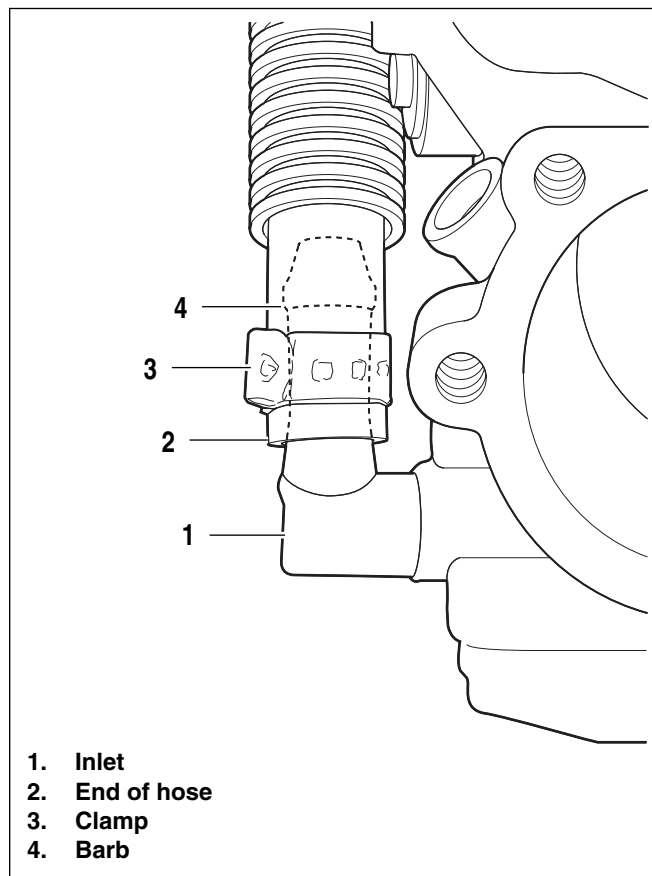

Figure 1. Fuel Hose And Clamp
2. See Figure 1. Inspect fuel hose and clamp. Be sure top of clamp (3) is below barb (4). Verify that end of hose (2) extends past bottom of clamp.
3. If clamp and hose are not in proper position, cut clamp and reinstall hose with new clamp (Part Number 10014) using HOSE CLAMP PLIERS (HD-97087-65B) so hose and clamp positions resemble Figure 1.